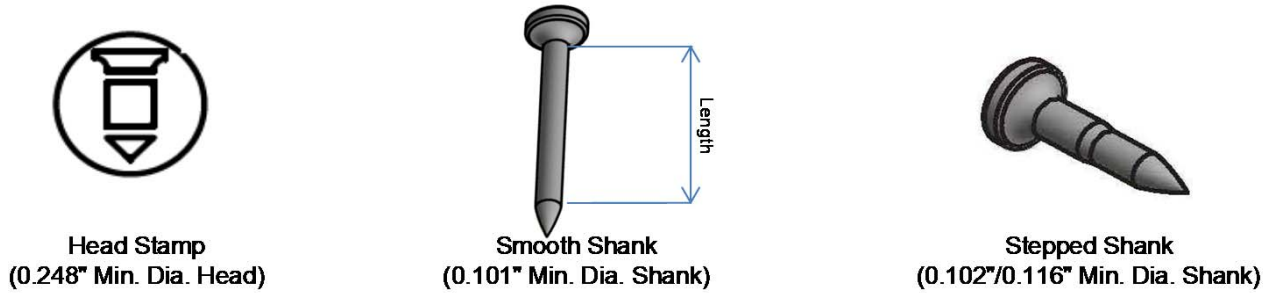

Figure 1 - Fastener Head Stamp & Dimensions
6. Trademark Head Stamp by **Aerosmith** as shown in Figure 1